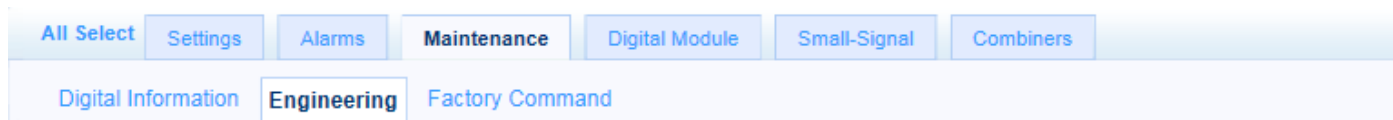

Figure 4-6 Engineering tab
3. Select the **Engineering** tab in **Maintenance** as Figure 4-6.